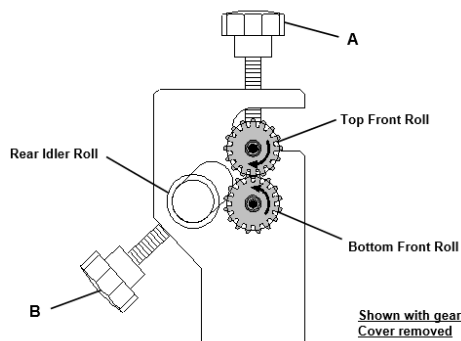
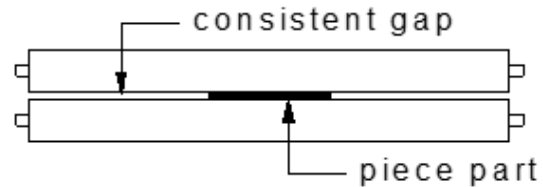

Figure 6-1
Figure 6-3
The SR-2420M slip roller has three 2.00" (50.8mm) diameter rolls. (fig. 6-3) The two front rolls, one placed vertically above the other are clamping rolls. The top roll is fixed and the bottom roll is adjustable with two knobs (A). The rear idler roll controls the diameter of the finished piece part and is adjusted with two bolts (B). Always make sure the gap along the full length of the rolls is consistent. (fig. 6-1) If the rolls are not adjusted exactly parallel, the material will spiral during the rolling process. Because material springback varies with the kind of material being formed, only by test forming several pieces can the correct adjustments be made.
Always make sure the gap along the full length of the rolls is consistent. (fig. 6-3).